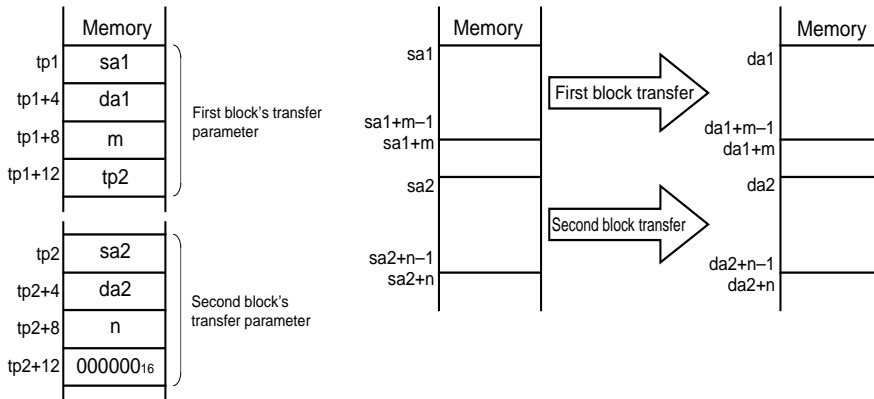

Fig. 13.8.9 Conditions necessary for timings shown in Figures 13.8.7, 13.8.8, and 13.8.10 through 13.8.14
Figure 13.8.6 shows the operation flowchart of the link array chain transfer mode, and Figures 13.8.7 and 13.8.8 show timing diagrams of the link array chain transfer mode (burst transfer mode). In addition, Figure 13.8.9 shows the conditions necessary for timings shown in Figures 13.8.7, 13.8.8, and 13.8.10 through 13.8.14.
Figure 13.8.9 shows the conditions necessary for timings shown in Figures 13.8.7, 13.8.8, and 13.8.10 through 13.8.14.
- The above figure is the example of initial term for processing the first block in "Figure 13.8.9."
- The above figure is the example of initial term for processing the first block in "Figure 13.8.9." When the array chain transfer mode is selected, there is not the term of \*2.
- The above figure is the example of the second 1-unit transfer for processing the first block in "Figure 13.8.9."
- The above figure is the example of the last term for processing the first block in "Figure 13.8.9."
- The above figure is the example of the last term for processing the second block in “**Figure 13.8.9.**”